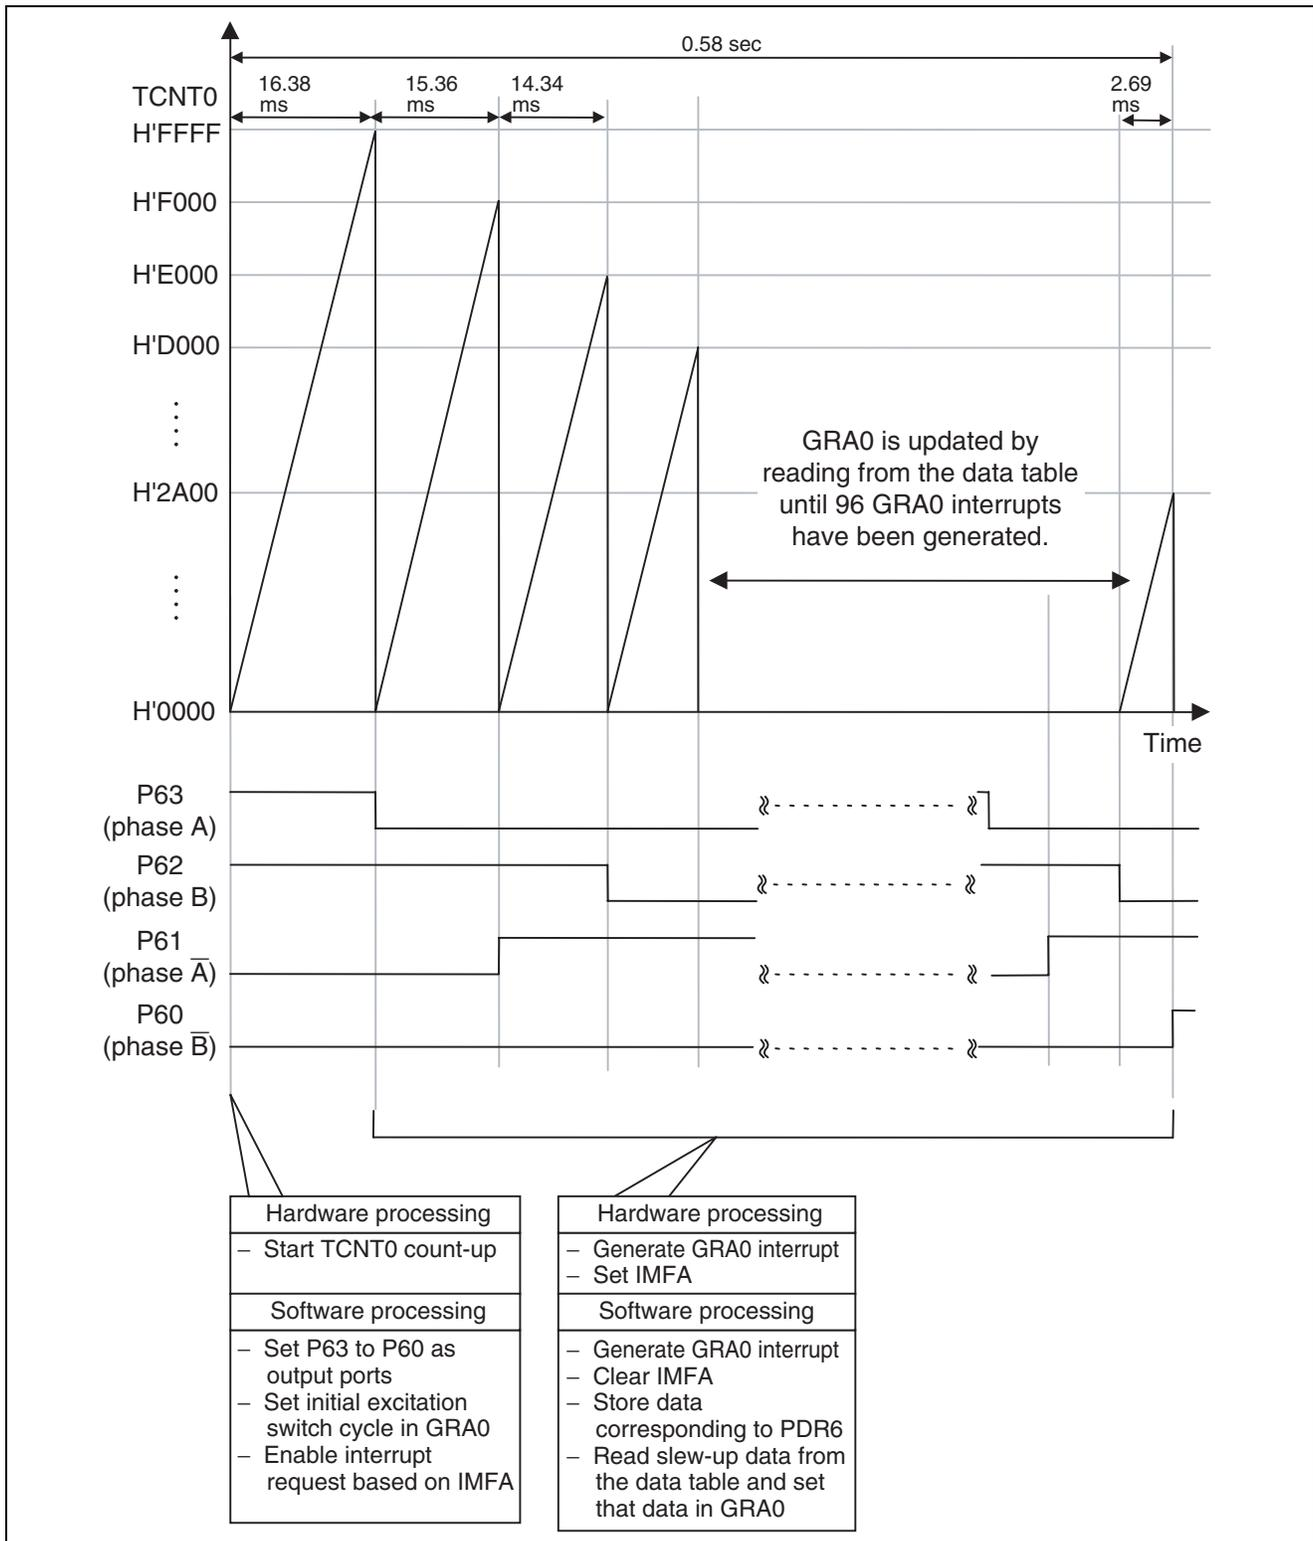

Figure 8 Principle of Slew-up Control during Forward Rotation
3.5 Figure 8 illustrates the principle of slew-up control during forward rotation